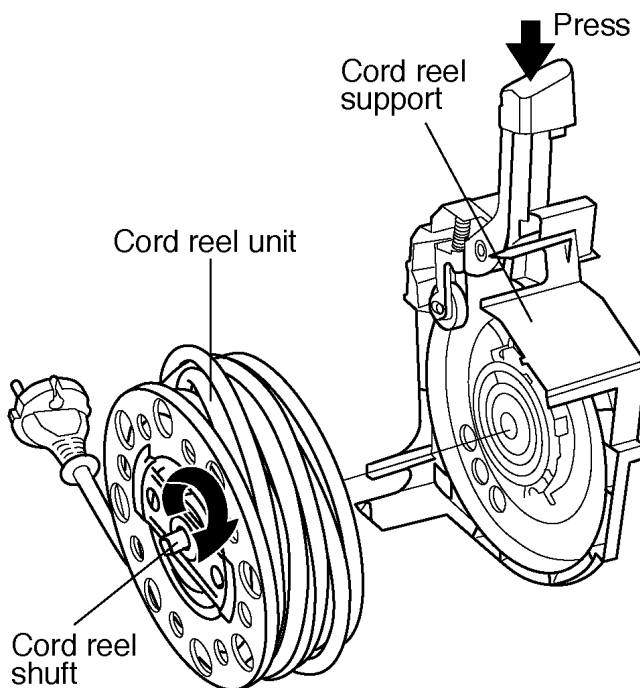

fig.16
6. Press the brake lever pedal to reassemble cord reel unit and cord reel support, then turn the cord reel shaft in the arrow direction to join both parts. (Fig. 16)
6. Press the brake lever pedal to reassemble cord reel unit and cord reel support, then turn the cord reel shaft to join both parts. (see figure 16)